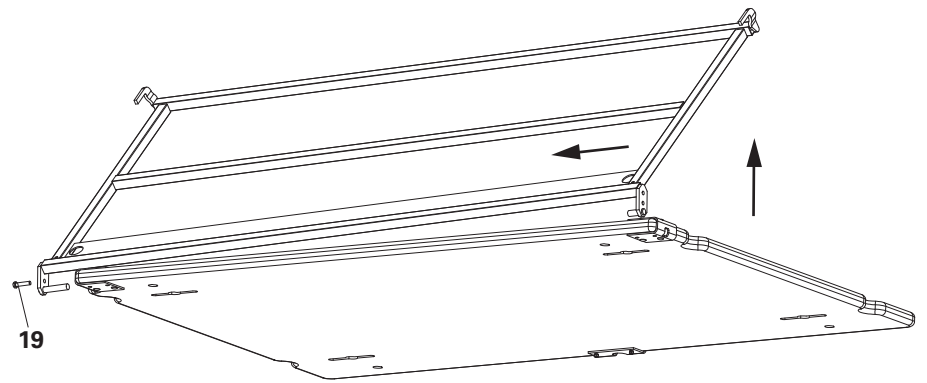

Fig. A3.06a
2. Raise the right-hand side of the frame, push it to the left and then remove. (Fig. A3.06a)